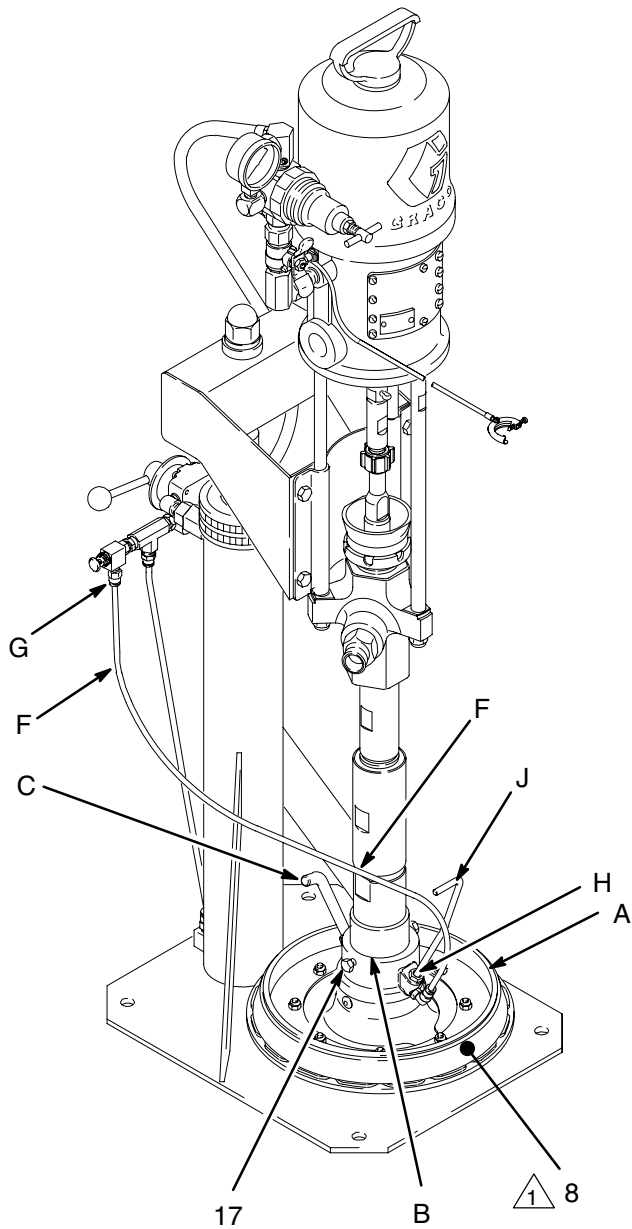

Fig. 9
Reference letters and numbers in the text refer to Figs. 9–12 and the Parts Drawing on page 16.
2. Install the wiper plate (A) onto the pump intake (B), with the wiper plate vent handle (C) facing the left of the ram. Secure by tightening the setscrews (17). See Fig. 9.